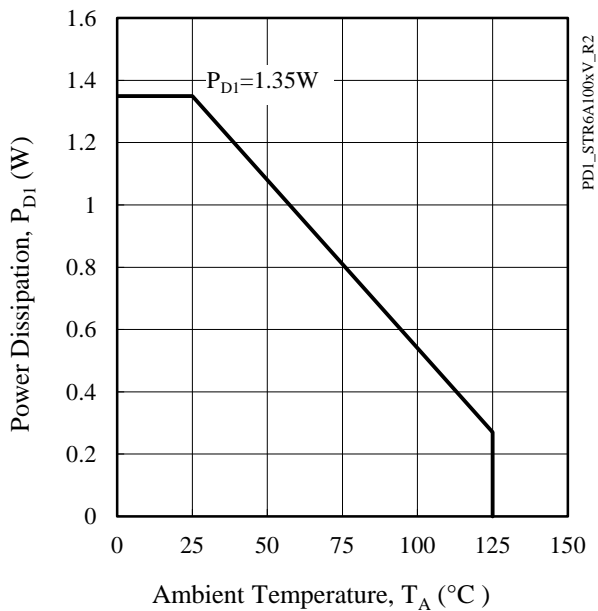

Figure 3-3. Ambient Temperature versus Power Dissipation Curve
(4) See Section Figure 3-3  $T_A$ - $P_{D1}$  Curve.